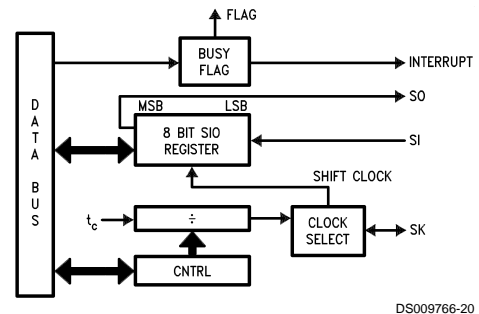

FIGURE 13. MICROWIRE/PLUS Block Diagram
ers, E2PROMs etc.) and with other microcontrollers which support the MICROWIRE interface. It consists of an 8-bit serial shift register (SIO) with serial data input (SI), serial data output (SO) and serial shift clock (SK). *Figure 13* shows a block diagram of the MICROWIRE logic.